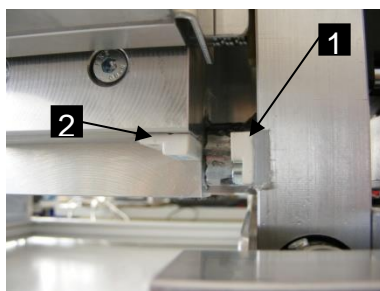

Figure 10b: Y-Carriage
- The reference switch (Fig. 10b / 1) responds to the magnetic field of the incoming homing magnet (Fig. 10b / 2). If the magnet is close enough the reed sensor of the switch turns on.